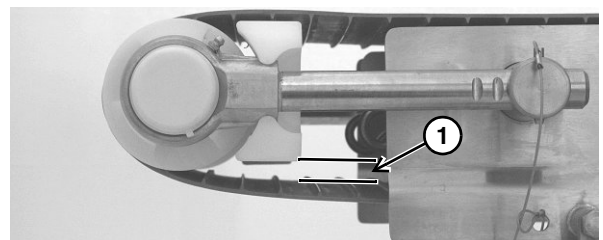

Figure 37
- Some belt sag (**Figure 37**, item 1) is required for proper operation.